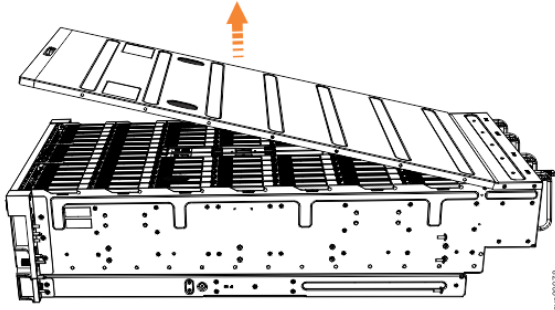

Figure 97. Removing the 5U expansion enclosure cover
4. Carefully lift the cover up, as shown in Figure 97 on page 157.